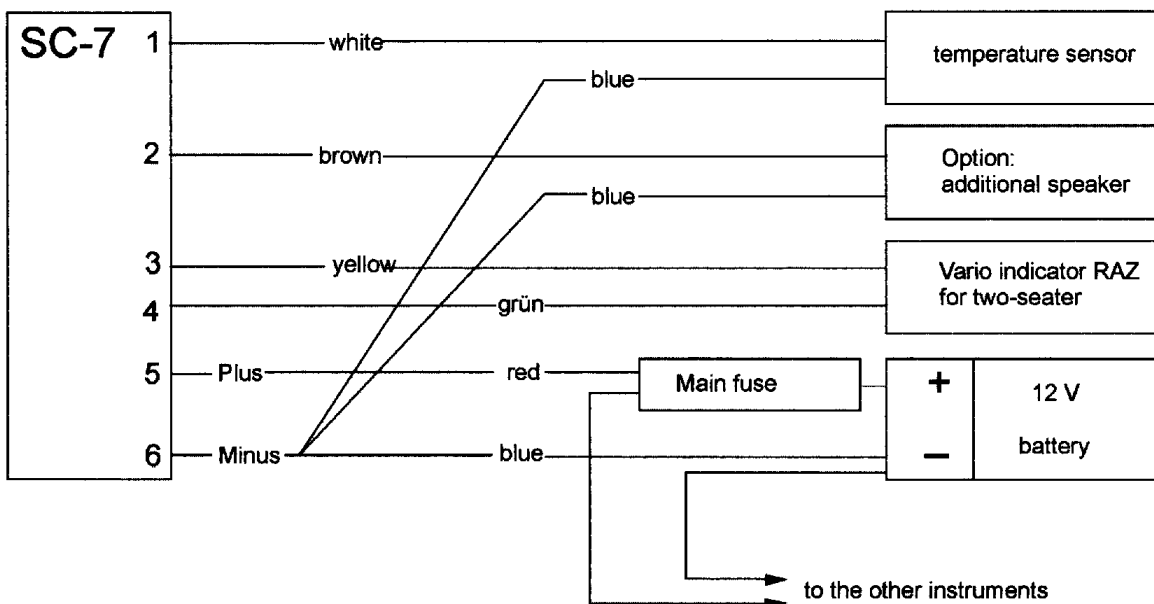

Figure 2: Wiring
- The battery, the additional indicator for the back-seat, the additional speaker and the temperature sensor are to be connected as shown in connection diagram in figure 2.